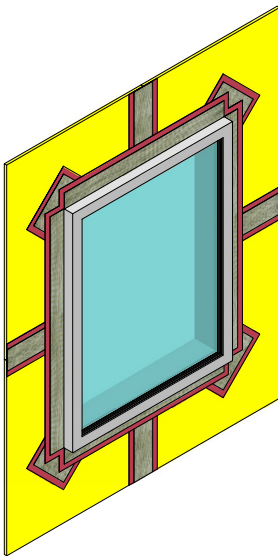

Figure 28
7. Install window per window manufacturer's instructions. (See Figure 28)